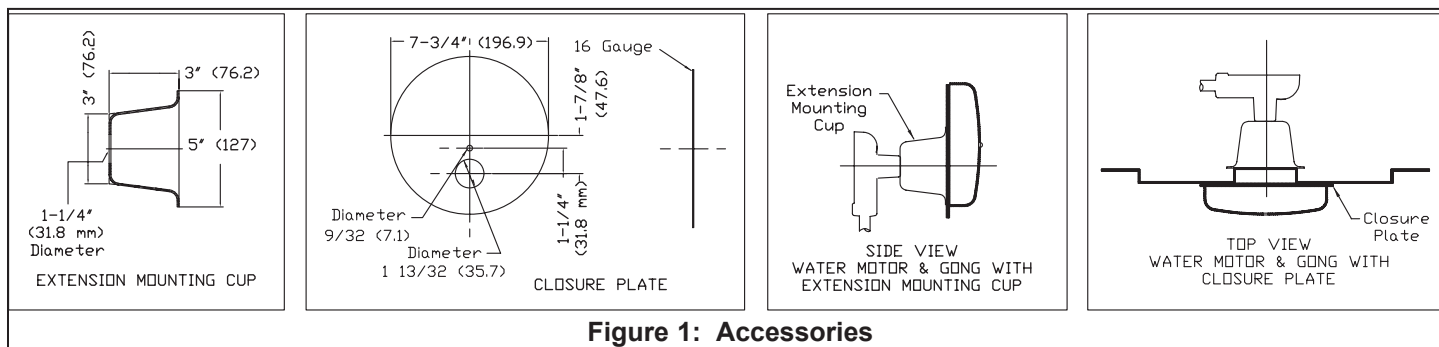

Figure 1: Accessories
1. Extension Mounting Cup: Viking Part Number 05957B, Material: 14-Gauge Cold Rolled Steel, UNS-G10080, coated with black E-coat. The extension mounting cup is required when the wall thickness is less than 3" (76.2 mm). Refer to "INSTALLATION" instructions. See Figure 1.
2. Closure Plate: Viking Part Number 05820B, Material: 16-Gauge Galvanized Steel, UNS-G10080. The closure plate is required when the Water Motor Alarm gong is mounted on an irregularly surfaced wall. It serves to prevent birds from entering the inside of the gong. The closure plate also serves as a mounting plate for sheet metal walls. Refer to "INSTALLATION" instructions. See Figure 1.